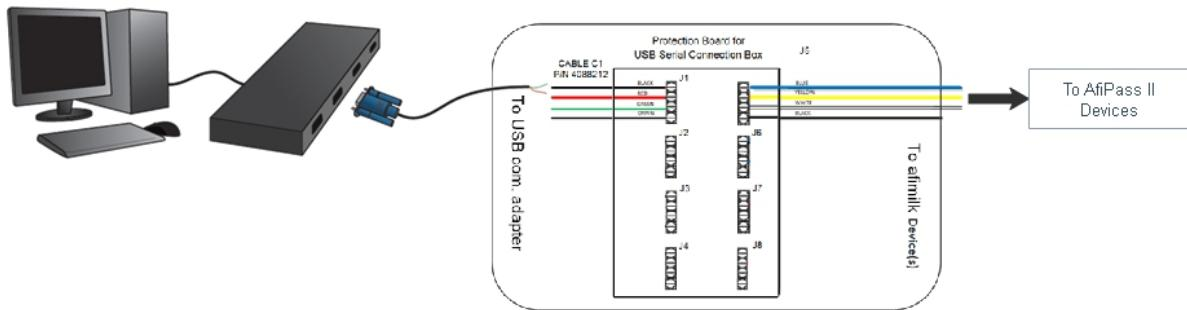

Figure 13 - Connection to PC
9. Connect to PC (see Figure 13): Connect the RS-485 communication cable coming from the Afipass II devices to the **Aficom USB4 Connection Box**'s J5 connector.